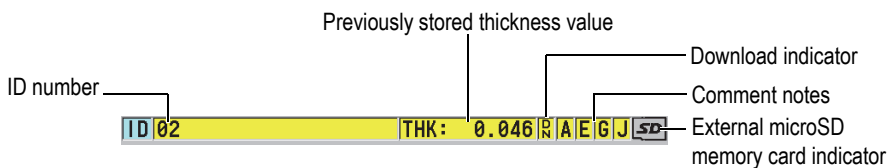

Figure 3-2 The ID bar
The ID bar, located at the top of the measurement screen, contains the ID for the actual thickness measurement location, the previously stored value, and comment notes indicators (see Figure 3-2 on page 56). The download indicator (R) appears when the previously stored thickness measurement comes from a file rather than from a newly acquired value.